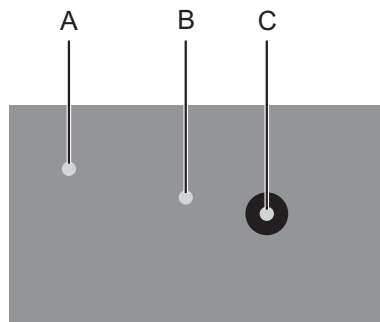

Figure 49: Light spots on adjustment laser housing
The adjustment laser beam will be reflected from the front and rear window back to the adjustment laser housing. There should be three light spots visible: the adjustment laser beam (from beam exit, see C in Figure 49) and the reflected light spots from the front (B) and rear (A) window.